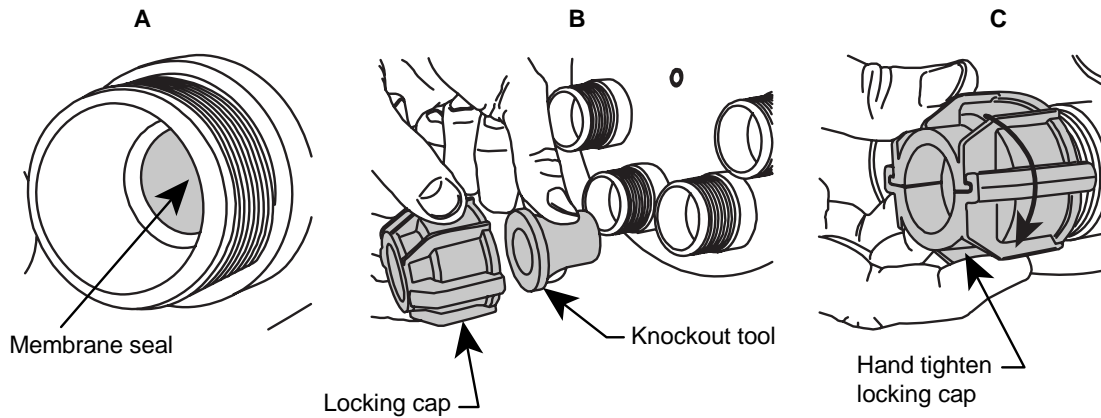

Figure 9
1. Select a drop port entrance. Break through the membrane seal using the knockout tool (provided) and locking cap (Figure 9–A, B, and C). Refer to the Table D for drop port grommet selection.